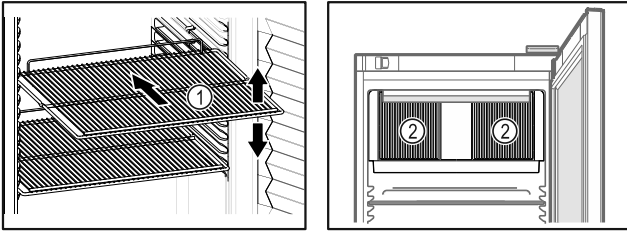

Fig. 62 Example illustration Fig. 63
- If there are adjustable shelves Fig. 62 (1), position them as required.